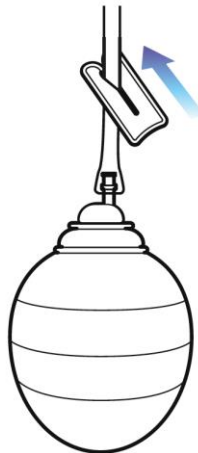

Figure 19: Occlusion of drainage in the closed wound drainage system
**Step 6** – Use the tube clamp (packaged with Origin™) to clamp the flexible tubing and impede drainage into the evacuator as depicted by **Figure 19** below. Do not clamp the flexible tubing too close to the evacuator to facilitate the attachment of Origin™ to the patient's wound drain.